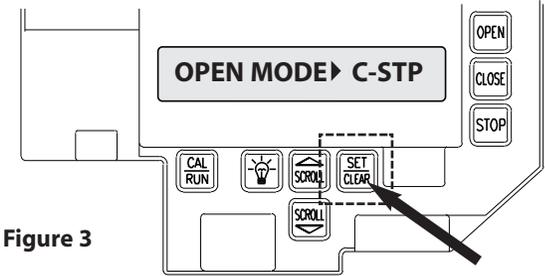

Figure 3
- 2) Press SET/CLEAR until display reads "OPEN MODE > C-STP." **Fig. 3.**